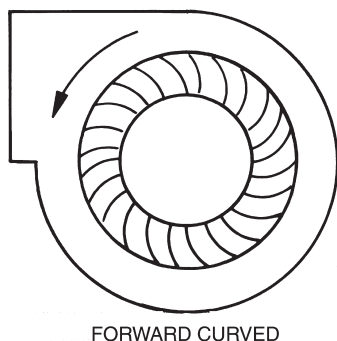

Fig. 61 — Fan Wheel Rotation
7. Check direction of rotation (see Fig. 61). Arrow on drive side of fan housing indicates correct direction of rotation.